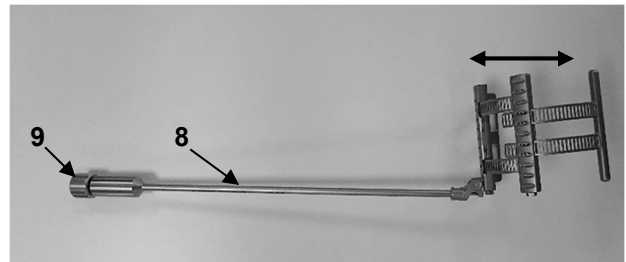

Fig. 9
The atrial blade can be raised or lowered via the blade guide (8) by turning the fixing nut (9) clockwise or counter-clockwise (Fig. 9).